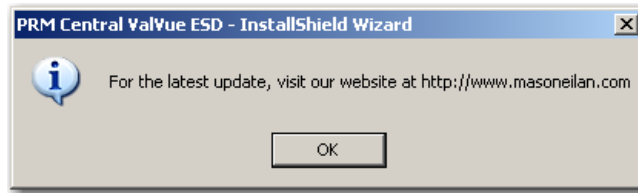

Figure 17 PRM Central Server Dialog III
13. Click **OK** and another dialog appears (Figure 17).